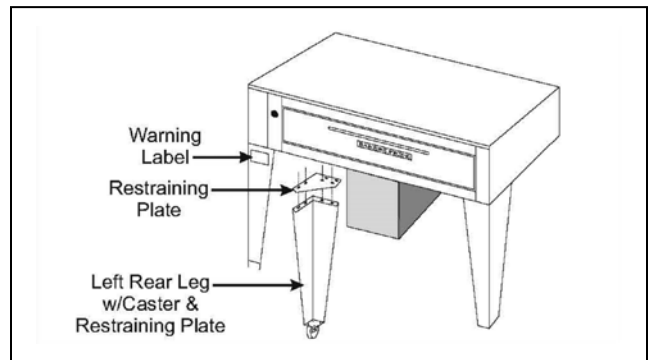

Figure 3
- c) Using proper lifting equipment, raise the back of the oven to a height slightly more than the height of the legs, remove the pallet and the rest of the packing material and place a sturdy support under the back side. (See Fig. 3)